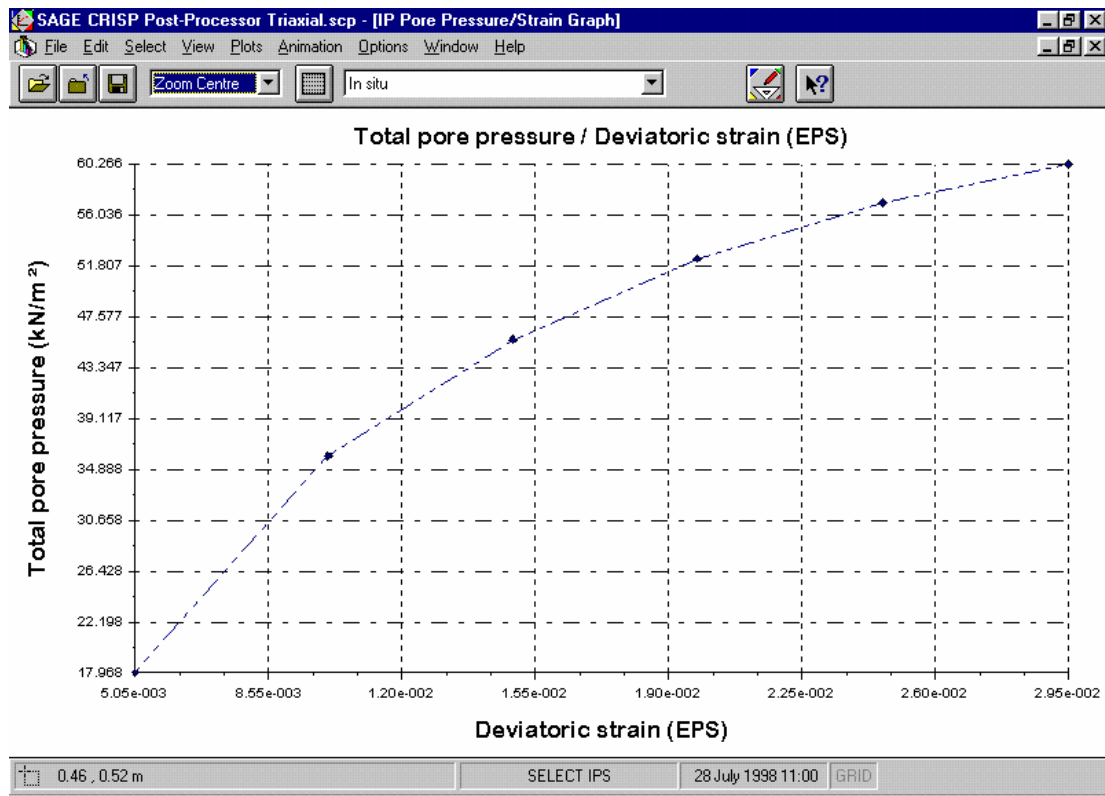

Figure 3-22 :Integration Point Pore Pressure/Strain Graph
- Step 16** Click on **OK** to exit once you have finished. The graph displayed should look similar to Figure 3-22. You can configure the way the graph looks (axis labels, titles and legend) by double-clicking on the graph window and changing the set-up in the Graph Configuration dialogue box.